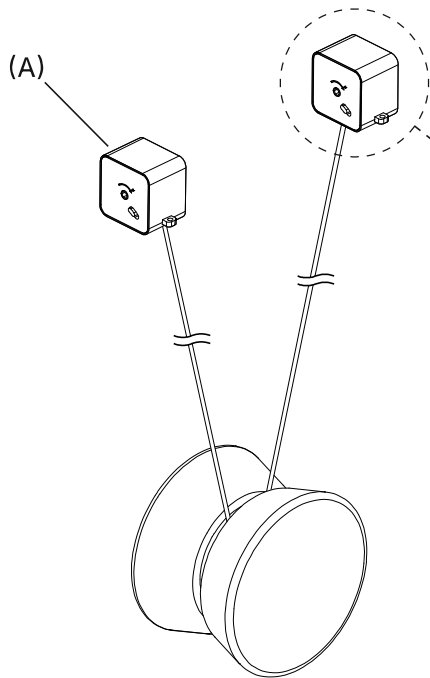
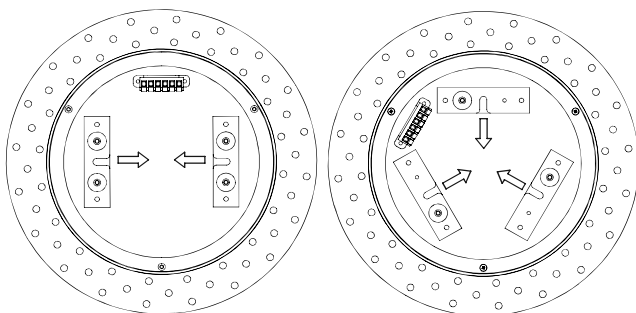

Fig. 4
Fig. 5
Each luminaire has two **Cord Spools (A)** (Fig. 4) for adjusting the cord length and transferring power from pendant to pendant.
1. To install a Cord Spool into a canopy: Loosen the **Mounting Screws (B)** on one of the **Spool Brackets (C)** in the canopy. Place Cord Spool into bracket. Tighten the Mounting Screws into the **Mounting Tabs (D)**.
**NOTE:** For recessed double and triple canopies, install Cord Spools with **Adjustment Screw (E)** pointing inward toward center of canopy (Fig. 5) for easier access to adjust cord tension (see p. 9).
5. Twist together the outer braided conductor to form the negative wire of the fixture, then strip 5/8" off the end of the inner stranded conductor to form the positive wire of the fixture (Fig. 4).